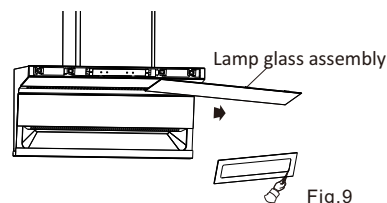

Fig.9
Light replacement (Fig.9)
- Use a cross-head screwdriver to unscrew the screws of the fixed top glass panel, take off the glass panel, and then use the cross-head screwdriver again to unscrew the screws of the lamp glass assembly. Push it to the right to the lamp glass assembly, pull out the interlocking connection piece, and the lighting lamp can be taken out.(Fig.9).